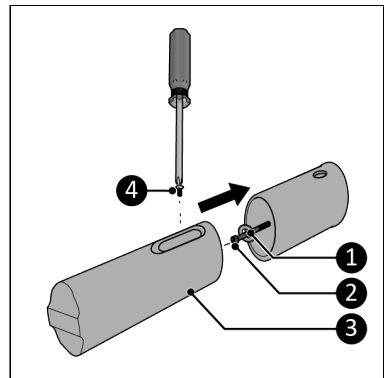

Figure 9.
6. Place the wall plugs and provided rings (Figure 9, pos. 1).
7. Screw the four outer wall brackets with self-tapping screws (Figure 9, pos. 2) and spacer rings (Figure 9, pos. 1) into the four plugs.
9. Attach the four inner wall brackets (Figure 9, pos. 3) to the outer wall brackets with small screws (Figure 9, pos. 4) using a Phillips screwdriver.